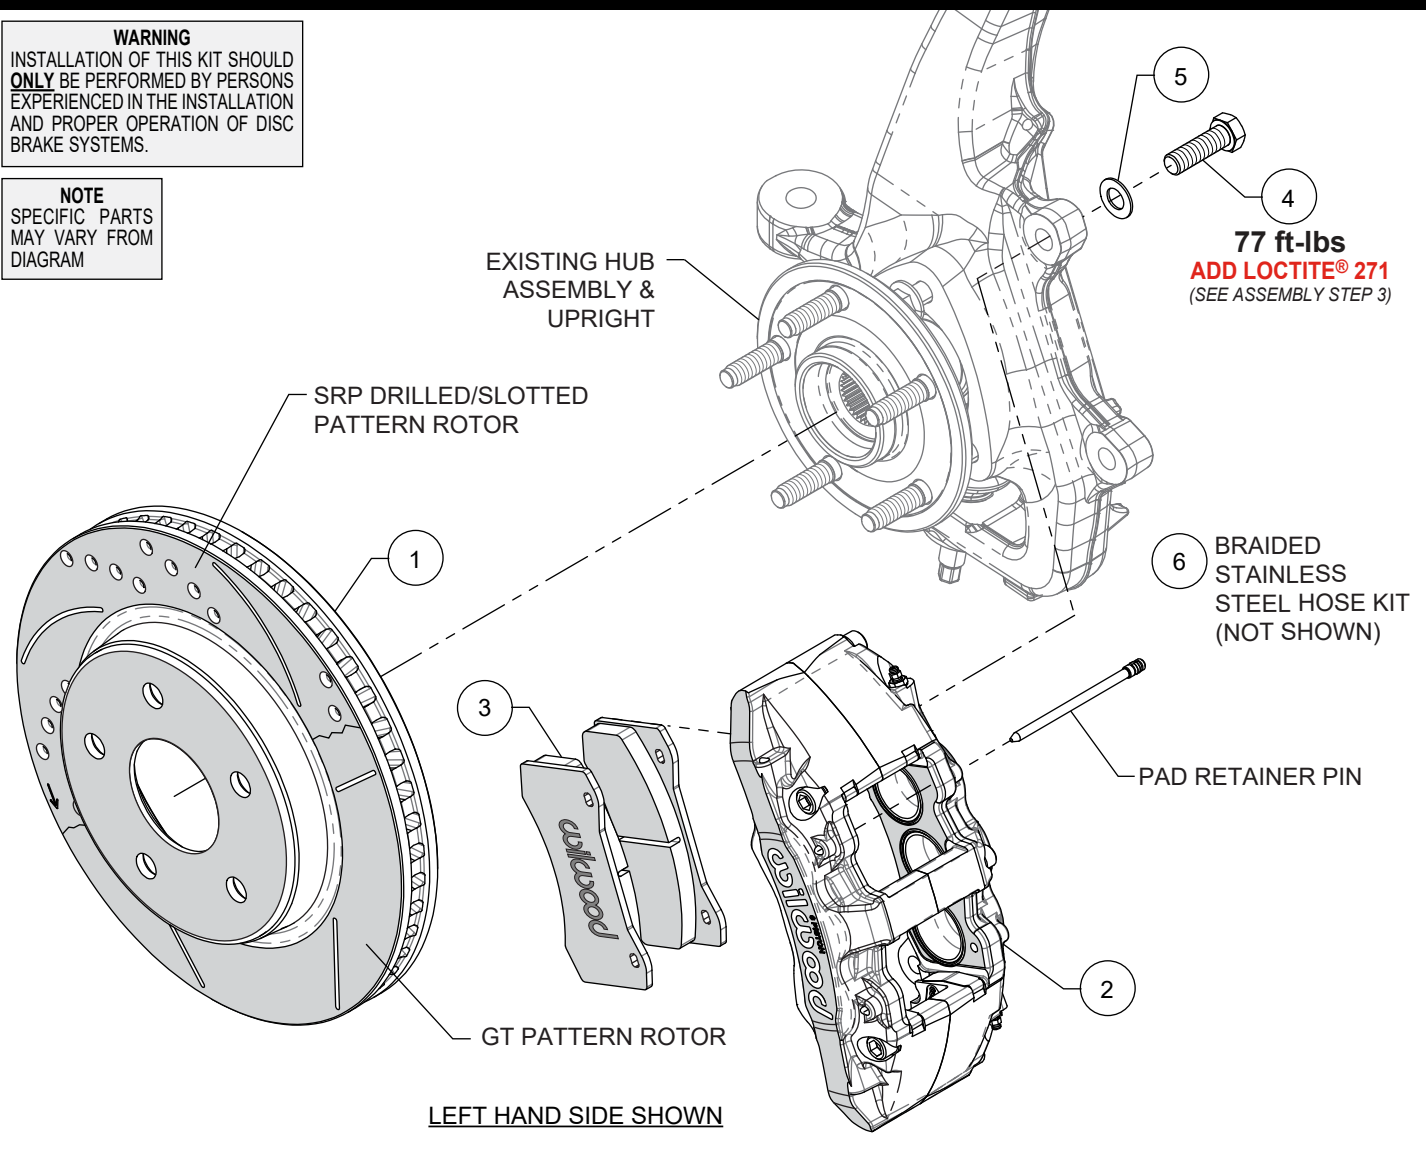

Figure 1. Typical Installation Configuration
Numbers in parenthesis refer to the parts list and Figure 1 on the preceding pages.
STEP 1 Slide the rotor (1) onto the hub. **NOTE:** *The rotor must fit flush against the hub flange or excessive rotor run out may result.* Install three lug nuts (finger tight) to keep the rotor in place while continuing with the installation, Photo 1.
STEP 2 Remove the two pad retaining pins from the caliper (2), Figure 1. Insert the brake pads (3) into the caliper from the bottom, with the friction material facing the rotor, as shown in Photo 2. Secure the brake pads in place with the pad retaining pins, Photo 3 and Figure 1. **CAUTION:** *Ensure pad retaining pins are completely engaged into caliper.* It is recommended to use a small flat punch and hammer to tap the pins in until they are fully seated.
STEP 3 **NOTE:** *This kit contains distinct right and left hand calipers that must be mounted in a specific direction, as described below.* Ensure that the caliper is mounted so the largest pistons are at the rotor exit end of the caliper, in relation to the forward direction of the rotor. Mount the caliper (2) onto the OEM caliper mounting bosses of upright using bolts (4) and washers (5), as shown in Figure 1. Apply red *Loctite*® 271 to bolt threads, and torque to value shown in Figure 1.
STEP 5 Attach brake line to caliper. **NOTE:** *OEM rubber brake hoses generally cannot be adapted to Wilwood calipers.* Install Wilwood's braided stainless steel flexline hose kit (6), p/n 220-15806, included with this kit. The caliper inlet fitting is a 1/8-27 NPT. Use the included steel adapter fitting at the caliper (use PTFE tape on the pipe threads of adapter fitting for proper sealing to caliper). Note the final orientation of the caliper inlet adapter fitting as shown in Photo 4. Mount the Wilwood brake line chassis adapter fitting into OEM bracket using the supplied retainer clip and attach the OEM hard line to new chassis adapter fitting. Attach flexline to other end of chassis adapter fitting and then to caliper fitting. Note routing of flexline as shown in Photo 4. **NOTE:** *Secure any sensor wires away from rotating parts using zip-ties (not included with brake kit).*